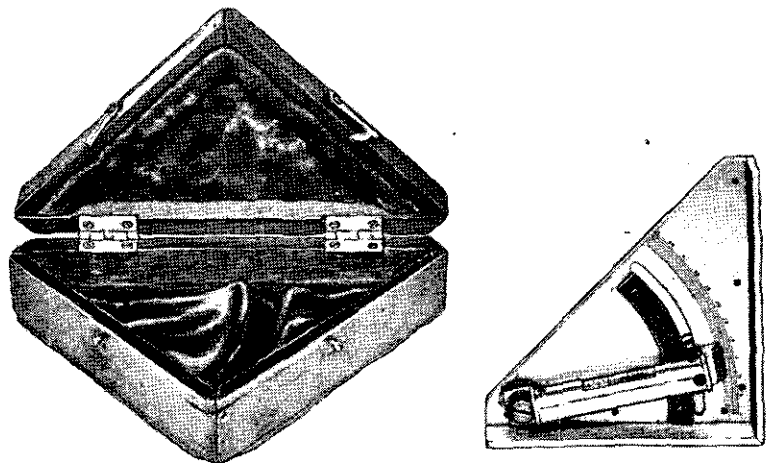

Figure 88.—Gunner's quadrant with carrying case.
(2) *Gunner's quadrant.*—The gunner's quadrant (fig. 88) used for laying-in the Model 11 (1922) 70-mm mortar is simple in construction. There is a level vial,